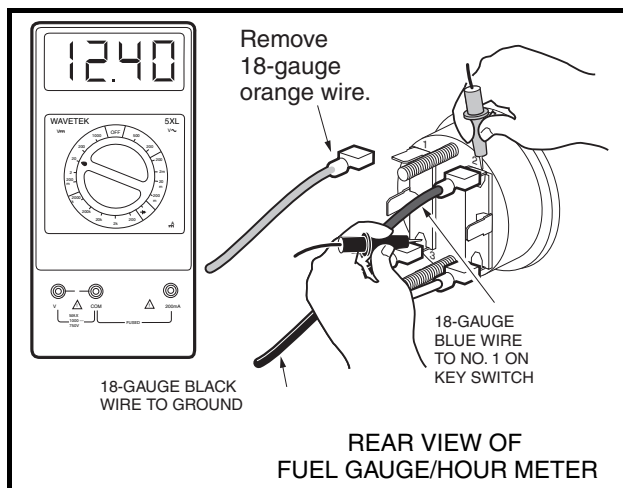

Figure 11-30 Fuel Gauge Test
5. Set a multimeter to 20 volts DC and place the red (+) probe of the multimeter on the (2) terminal of the fuel gauge/hour meter with the blue wire. Place the black (–) probe on the (3) terminal of the fuel gauge/hour meter with the black wire (**Figure 11-30, Page 11-31**).
7. Turn the key switch ON. The voltage reading should be the same as the battery voltage reading recorded earlier. If not, check the continuity of the blue and black wires (**Figure 11-30, Page 11-31**).